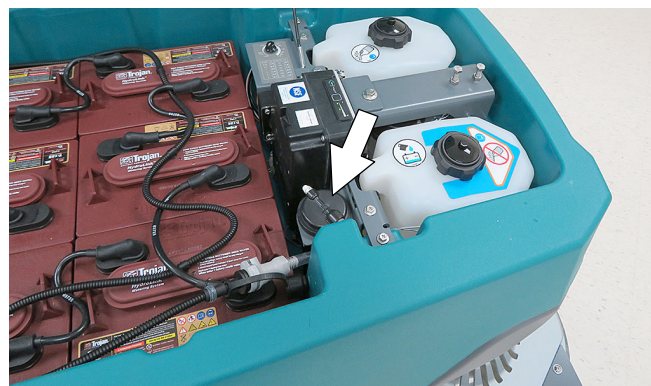

FIG. 141
2. Lift the recovery tank to access the ec-H₂O water conditioning cartridge (Figure 141). Drain recovery tank before lifting tank.